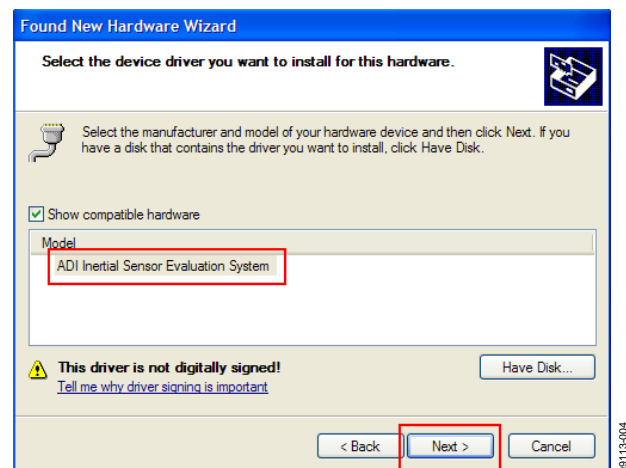

Figure 4. Selection of the ADI Inertial Sensor Evaluation System Drivers
4. Select **ADI Inertial Sensor Evaluation System** from the model list (see Figure 4), and click **Next** to complete the process.